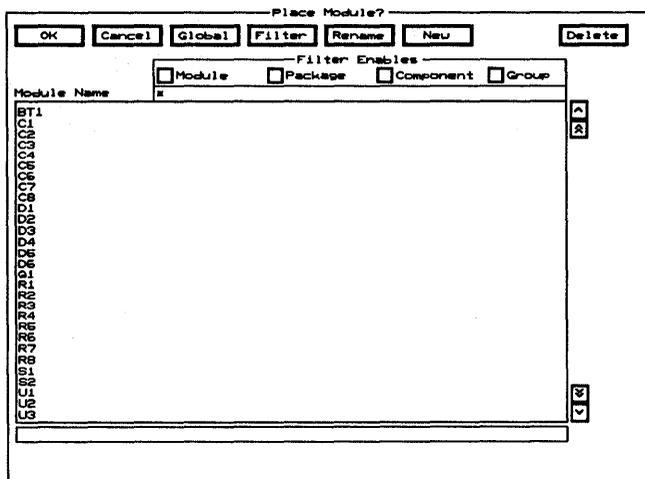

Figure 6-6. The **Place Module** dialog box.
1. Select **PLACE Module**. The **Place Module** dialog box displays (figure 6-6).